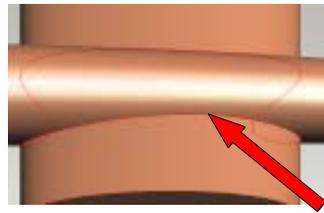

figure 4
7. Using the center scroll button on your mouse, rotate and zoom in on the front axle support area as shown in *figure 4*.
8. Use **select edge command**  from the **select tools toolbar**, to select the line shown in *figure 4 above*.